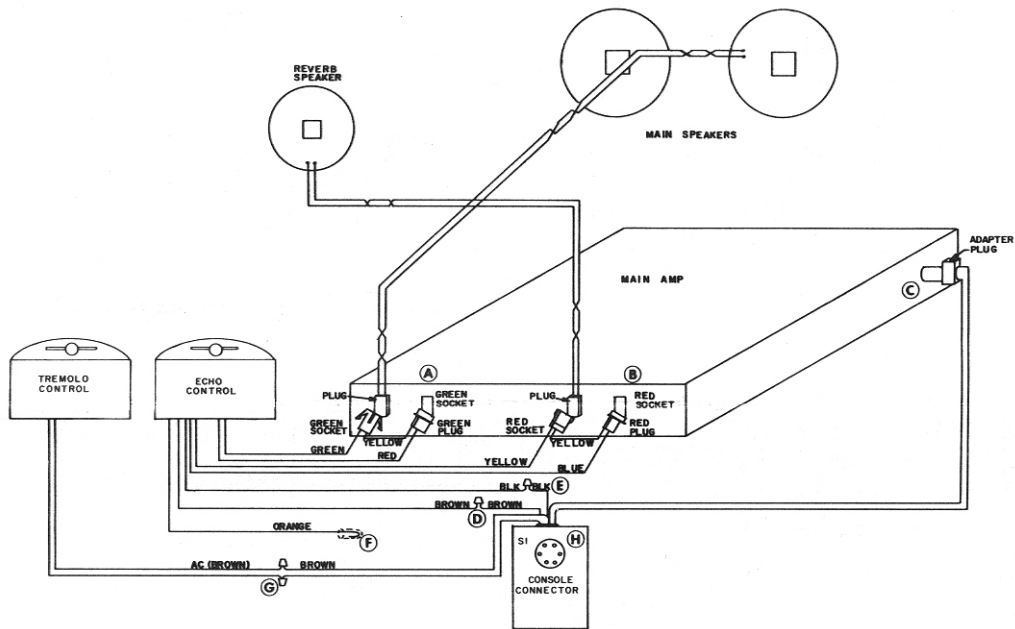

Figure 3. E100 Connections
5. Remove the green speaker plug from the chassis socket on the left-hand apron of the power amplifier. (A on figure 3) Fit this plug into the green interceptor socket on the echo switch cable, and fit the interceptor plug into the chassis socket.
6. Remove the red speaker plug from the chassis socket on the left apron of the power amplifier. (B on figure 3) Fit this plug into the red interceptor socket on the echo switch cable; then connect the red interceptor plug to the red chassis socket. Fold back the orange wire attached to the echo switch and insulate it with electrical tape. It is not used in this installation.
7. Connect the plug from the console connector to the 062091 adapter and insert the adapter into the 7-contact socket on the rear apron of the amplifier chassis. (C on figure 3)